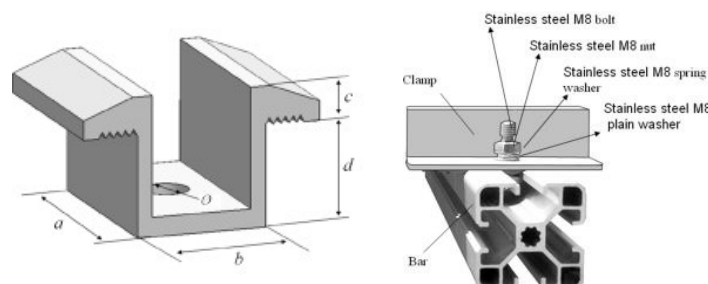

Figure 5: Middle clamps (left) and Side clamps (right)
5. Close-ups of Figure 5 show the middle clamps and the side clamps. The dimensions for the middle clamps are $a \geq 40$ mm, $b \geq 26$ mm, $c = 8$ mm, $d \geq 28$ mm, and $\varnothing = 9$ mm. The torque for tightening the nut and bolts recommended is 28Nm when the property class of bolts and nuts is Class 8.8. When installing the cross beam through the long side bricketting, drive the slide bolts through the groove on the supporting bars next to the locations where the clamps are to be fastened. The module may be clamped only in the permitted clamping area on the long edge of the frame, and the edge of the clamp should not coincide with the position of the mounting hole.